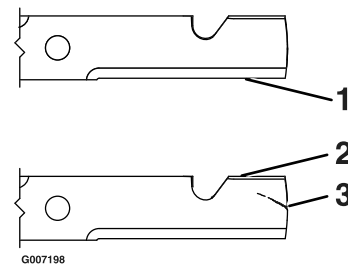

Figure 33
1. Inspect the cutting edges (Figure 33). If the edges are not sharp or have nicks, remove and sharpen the blades; refer to **Sharpening the Blades**.
2. Inspect the blades, especially the curved area. If you notice any damage, wear, or a slot forming in this area (item 3 in Figure 33), immediately install a new blade.